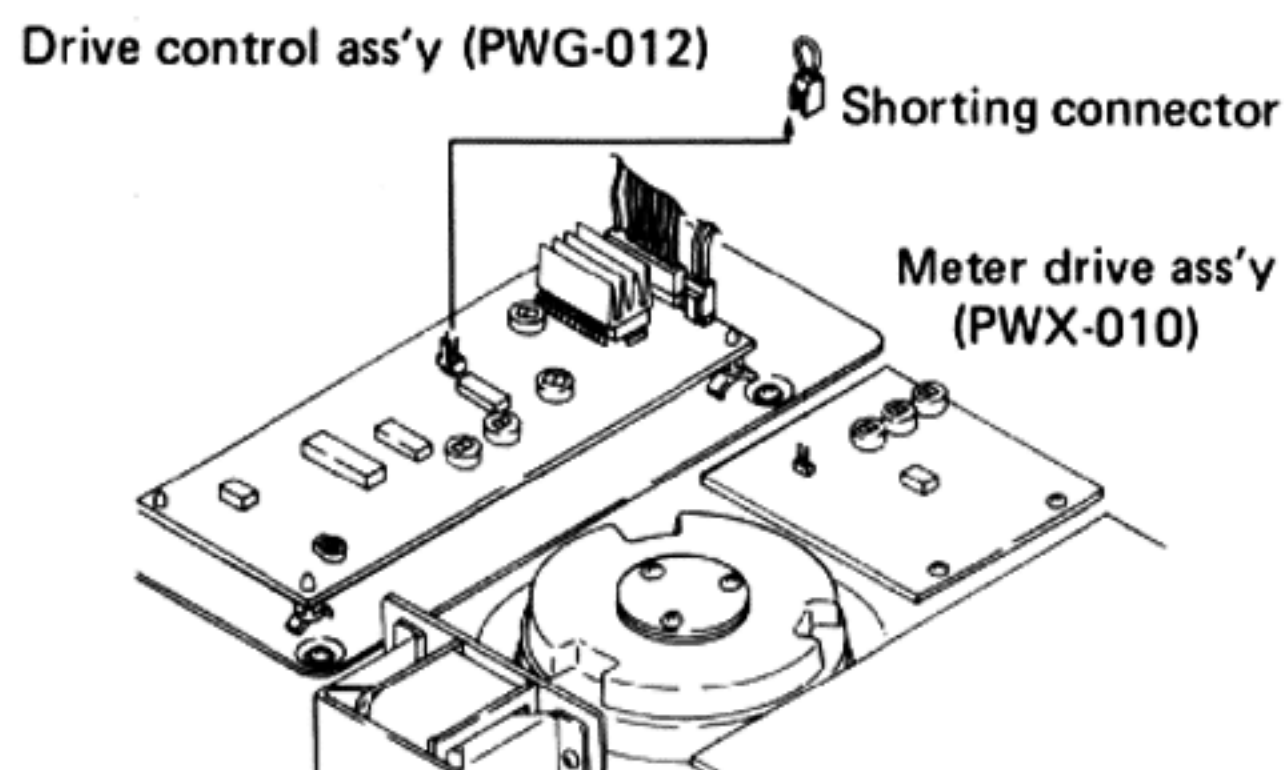

Fig. 7
2. When adjusting on steps (4.1) and (4.4), remove a shorting connector (PXA-169) in the Drive Control Assembly (PWG-012) referring Fig. 7.